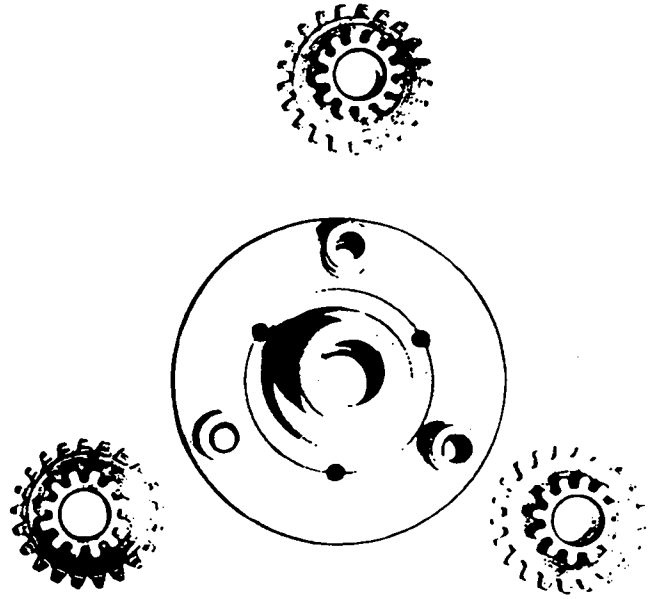

Figure 57
d. Mesh the three gears with Sun pinion so that the timing marks form an equal sided triangle. Timing marks (A, Figure 57) are small punches on the opposite side of gears.